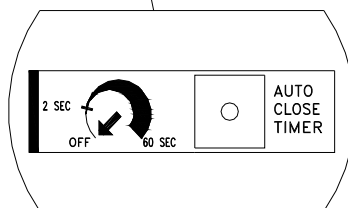

Figure 19: Location of Auto-Close Timer Adjustment
The Timer to Close is controlled by the setting of the “AUTO CLOSE TIMER” potentiometer on the control board, see Figure 19. When the pot is adjusted fully counter-clockwise the Timer-To-Close is disabled. Turning the pot approximately 1/4 turn clockwise will enable the Timer To Close function with a delay of approximately 2 seconds between the gate reaching the full open position and automatically closing. To increase the time delay continue to turn the pot in the clockwise direction to a maximum delay of 60 seconds (one minute).
2. If the TIMER TO CLOSE option has been selected, the timer will activate the gate to close within a maximum of 60 seconds depending on the setting of the TIMER TO CLOSE potentiometer (See Figure 19, Page 19).
To alter the amount of time that the close timer will hold the gate open, adjust the timer potentiometer located on the Control Board. See Figure 19, page 19.